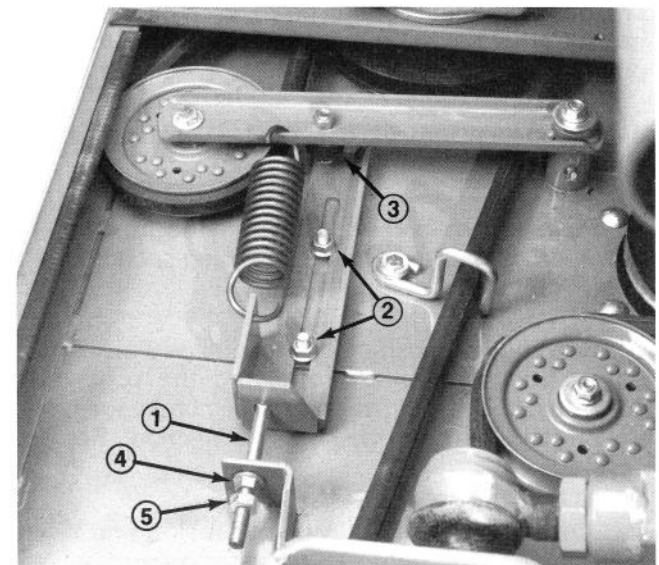

Figure 31
1. Loosen capscrew nuts which secure the spring bracket to the deck (Fig. 31). Loosen the jam nut which locks the threaded rod.
2. Adjust the spring bracket so that the lip on the spring bracket just contacts the rubber stop (Fig. 31) on the idler arm. Use the threaded rod to make belt adjustments. Tighten capscrews securing the spring bracket in position on the deck and tighten the jam nut on threaded rod.
1. Loosen capscrew nuts holding the spring bracket to the deck (Fig. 31). Then loosen the threaded rod jam nut and back off the tensioning nut gradually to release the spring tension.